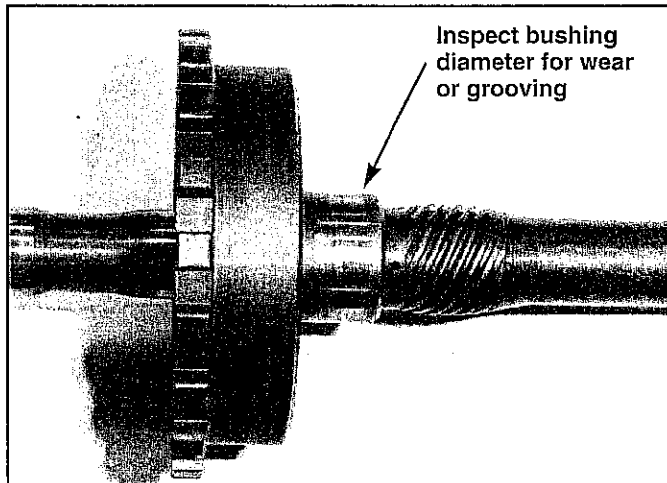

FIGURE 42
STEP 5. Inspect bushing diameter of output ring gear for wear and grooving. (See Fig. 42) Replace as necessary. Inspect